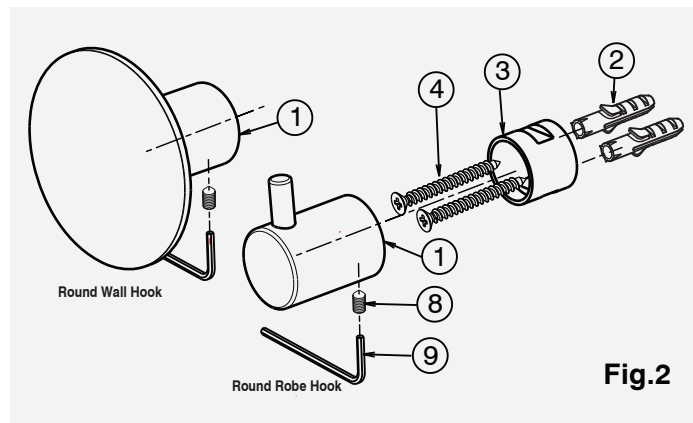
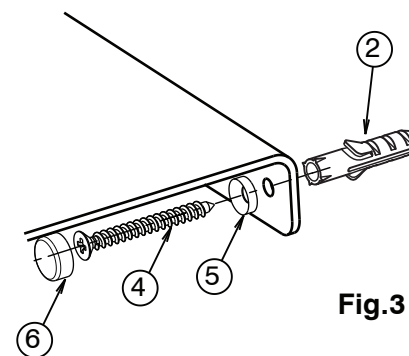

Fig.2
Fig.3
- Center to centre holes on fixing plate for Round Wall Hook and Round Robe Hook (Fig. 2) is 13mm.
- ii) Insert rounded end of wall plugs (2) into drilled holes and push in until flush with the wall surface.
- iii) For fixing plate (3) mounts, fit screws (4) through holes in fixing plates before screwing into wall plugs (2). Ensure orientation of fixing plates is as pictured.
- iv) Check alignment of all fixing plates (3) then tighten screws (4).
- v) For Toilet Roll Holder with Shelf (Fig. 3), fit screws (4) in Countersunk washers (5) and then through holes in accessory before screwing into wall plugs.
- vi) Ensure shelf is level and tighten screws (4).
- vii) Cap (6) can now be attached to Countersunk washer (5).
- i) Determine a suitable position to attach fixing plates (3) and screw location so they can be fixed to a stud or noggin in the wall. Ensure correct orientation of fixing plates.
- ii) For fixing plate (3), fit screws (4) through holes and screw directly into stud or noggin. Check alignment of all fixing plates (3) before tightening screws (4).
- iii) For Toilet Roll Holder with Shelf (Fig. 3), fit screws (4) in Countersunk washers (5) then through holes in accessory before screwing into stud or noggin.
- iv) Tighten screws, Cap (6) can now be attached to Countersunk washer (5).
- B) For fixing plate (3) mounts, loosen the fixing screws (8) on the accessory using Allen key (9) provided. Slide covers (7) (not required with hooks Fig.2) onto fixing plates (3) then install accessory (1) onto fixing plates (3), making sure that fixing screws (8) are located underneath as shown.**
- With accessory resting securely against fixing plates (3), tighten the fixing screws (8) using Allen key (9) provided.